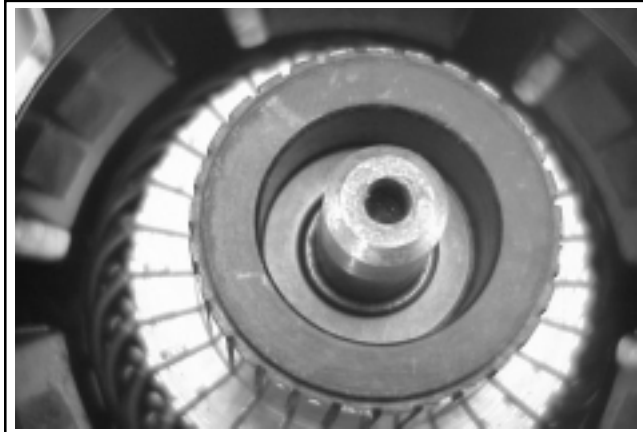

Figure 8-59. Installing Thrust Washer.
9. Install the flat thrust washer onto the commutator end of the armature shaft. See Figure 8-59.